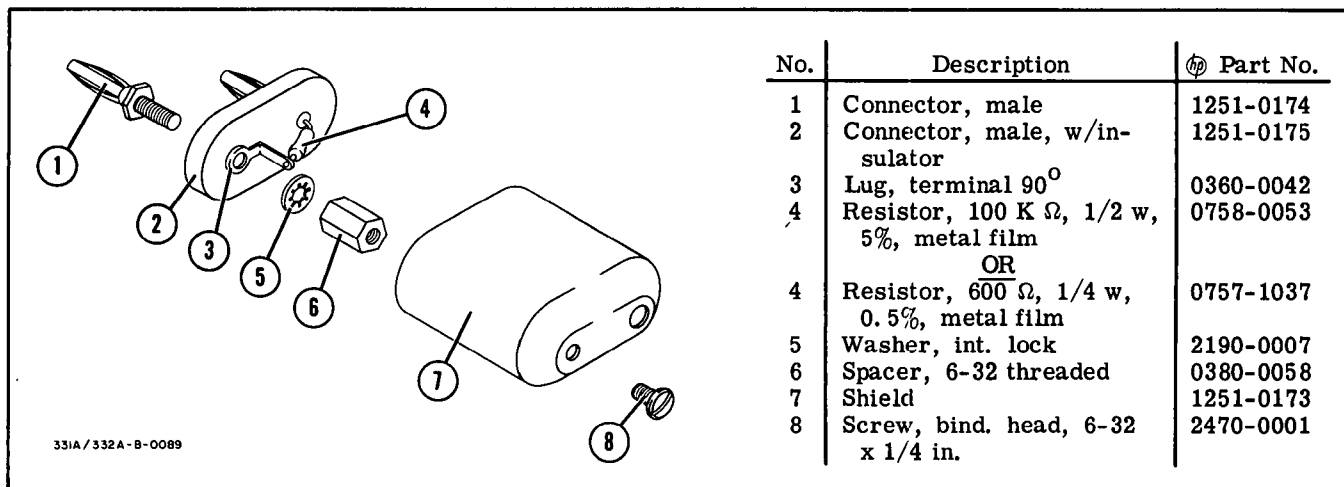

Figure 5-7. Shielded Load Assembly
- Connect a shielded 600 Ω load across 331A/332A INPUT terminals. (See Figure 5-7 for details on constructing shielded load.) Be sure that shorting bar is connected between chassis ground and circuit ground on INPUT terminals.
- Remove 600 Ω load. Connect a shielded 100 k Ω load across INPUT terminals. (See Figure 5-7 for details on constructing shielded load.)